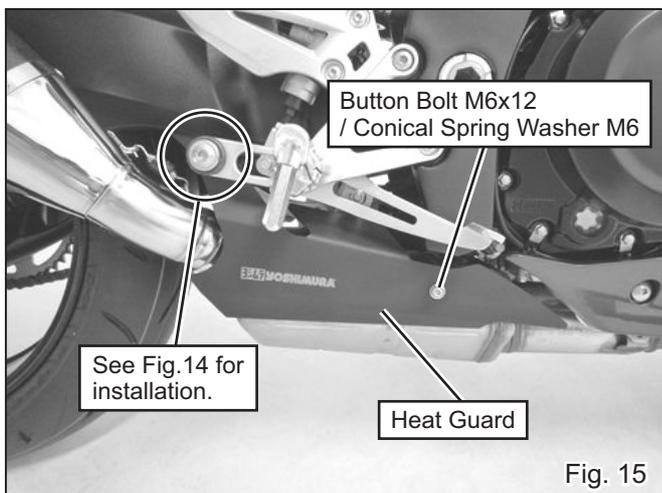

Fig. 15
- 12) Mount Heat Guard with Button Bolt M6x12, Conical Spring Washer M6, stock bolt, washer and nut removed at step 2) (See Fig. 15 & 16). Tighten and torque Button Bolt M6x12 and stock bolt.